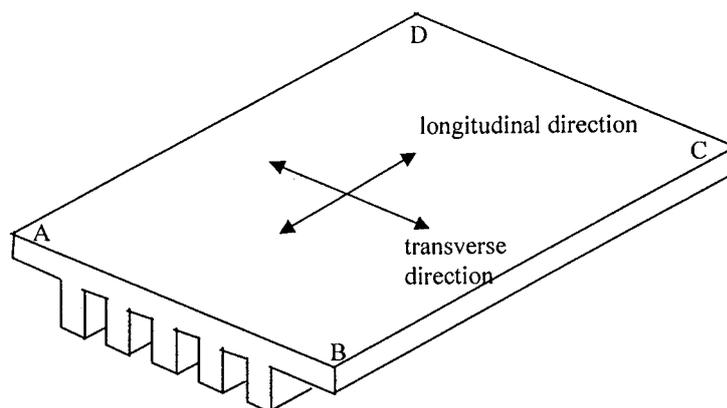
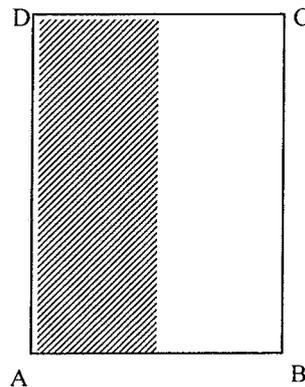

Figure 4
Figure 5 : Distributed load acting over a portion of the deck
4. (a) The bridge deck in Figure 4 is subjected to the distributed loading as shown in Figure 5. Explain why the bridge deck will experience both bending and torsional deformation. Use suitable sketches in your explanation.